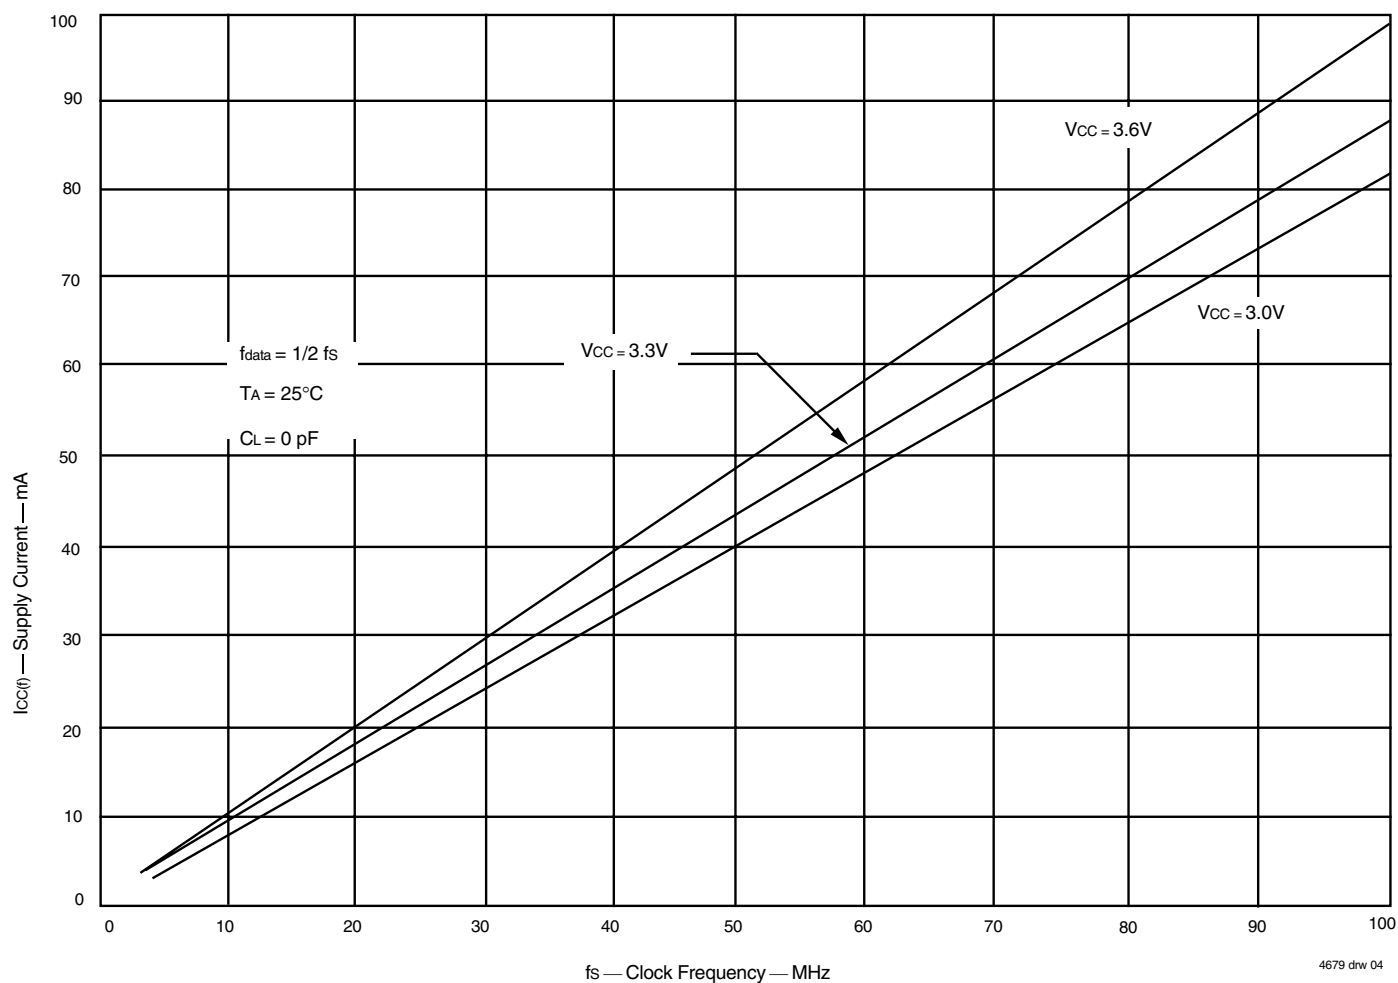

Figure 1. Typical Characteristics: Supply Current (I_{CC}) vs. Clock Frequency (f_s)
- For additional I_{CC} information, see Figure 1, *Typical Characteristics: Supply Current (I_{CC}) vs. Clock Frequency (f_s)*.
The $I_{CC(f)}$ current for the graph in Figure 1 was taken while simultaneously reading and writing a FIFO on the IDT72V3682/72V3692/72V36102 with CLKA and CLKB set to f_s . All data inputs and data outputs change state during each clock cycle to consume the highest supply current. Data outputs were disconnected to normalize the graph to a zero capacitance load. Once the capacitance load per data-output channel and the number of these device's inputs driven by TTL HIGH levels are known, the power dissipation can be calculated with the equation below.
With $I_{CC(f)}$ taken from Figure 1, the maximum power dissipation (P_T) of these FIFOs may be calculated by: